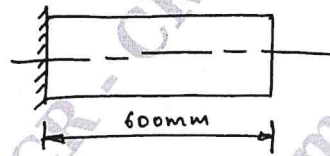

Fig.Q10(b)
b. Determine the natural frequency of longitudinal vibration of the bar shown in Fig.Q10(b). Take,  $E = 200 \text{ GPa}$ ,  $\rho = 7840 \text{ kg/m}^3$ ,  $A = 240 \text{ mm}^2$ .